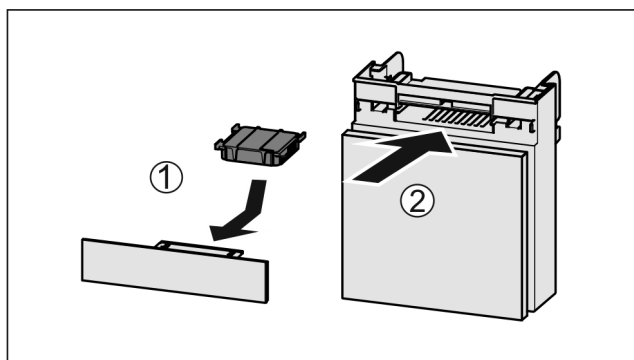

Fig. 36
- ▶ Insert the carbon filter as shown in the diagram Fig. 36 (1).
- ▶ Push the compartment in Fig. 36 (2).